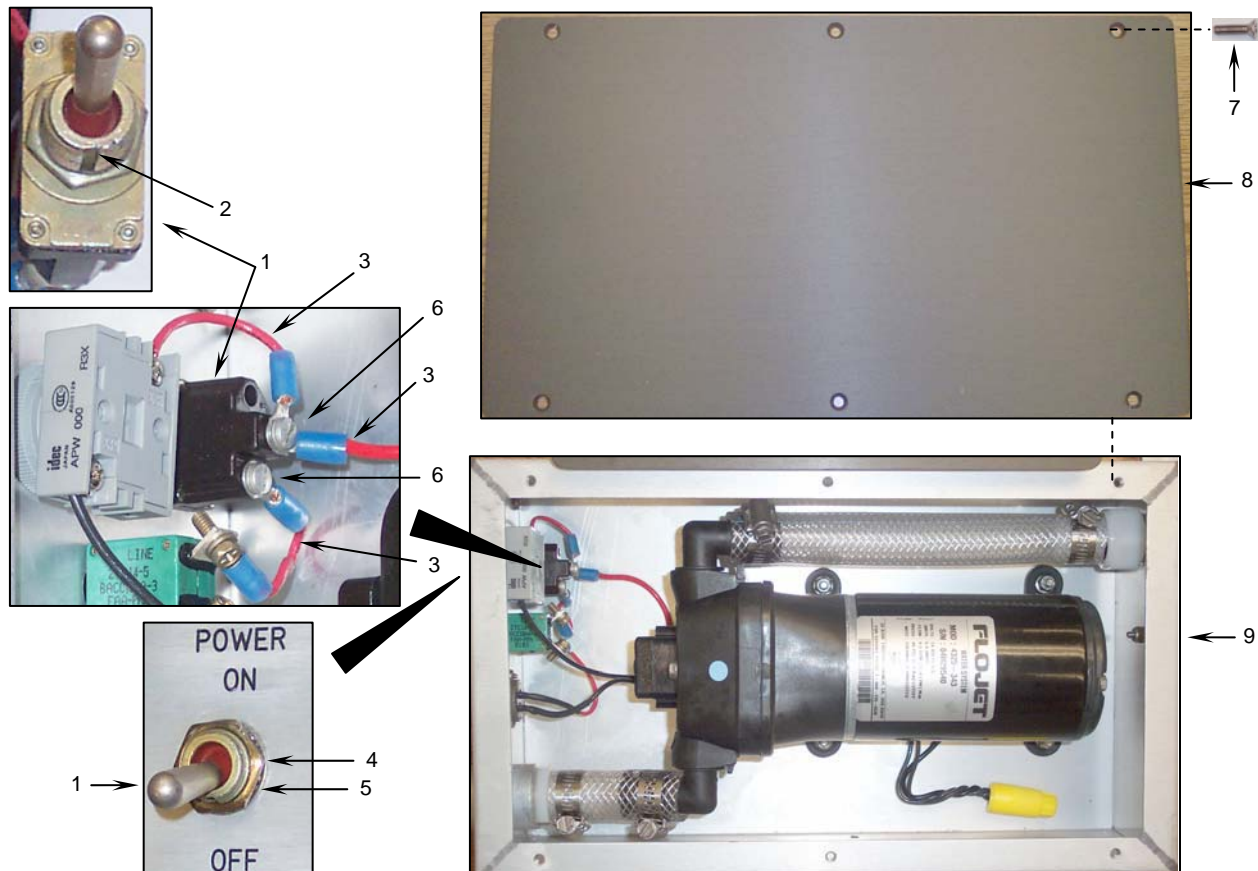

Figure 5. Installing the Sink Fill Pump Assembly Power Switch.
- a. Position the new power switch (**Figure 5, Item 1**) so that the slot (**Figure 5, Item 2**) in the threaded shaft is at the bottom.
- b. Connect the three wires (**Figure 5, Item 3**) to the new power switch as tagged.
- d. Secure the power switch to the enclosure using the lock washer (**Figure 5, Item 4**) and the lock nut (**Figure 5, Item 5**).
- e. Coat the terminal connections (**Figure 5, Item 6**) at the back of the power switch with corrosion preventative sealant.
- f. Apply sealing compound to the six flat head machine screws (**Figure 5, Item 7**) and secure the fill pump cover (**Figure 5, Item 8**) to the sink fill pump assembly enclosure (**Figure 5, Item 9**) using the six screws.